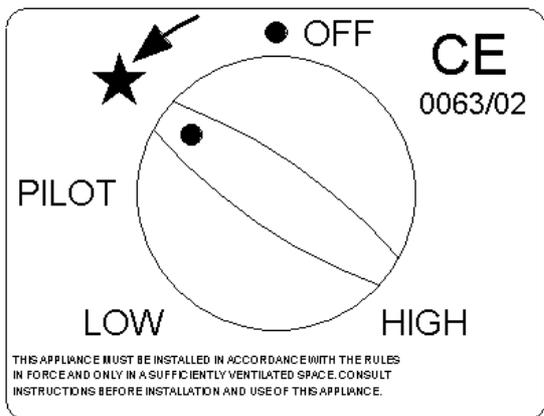

Fig 4a
Step 1a. To ignite the pilot push the control knob in, turn anti-clockwise towards the spark position and hold in for 15 seconds. (Fig 4a)